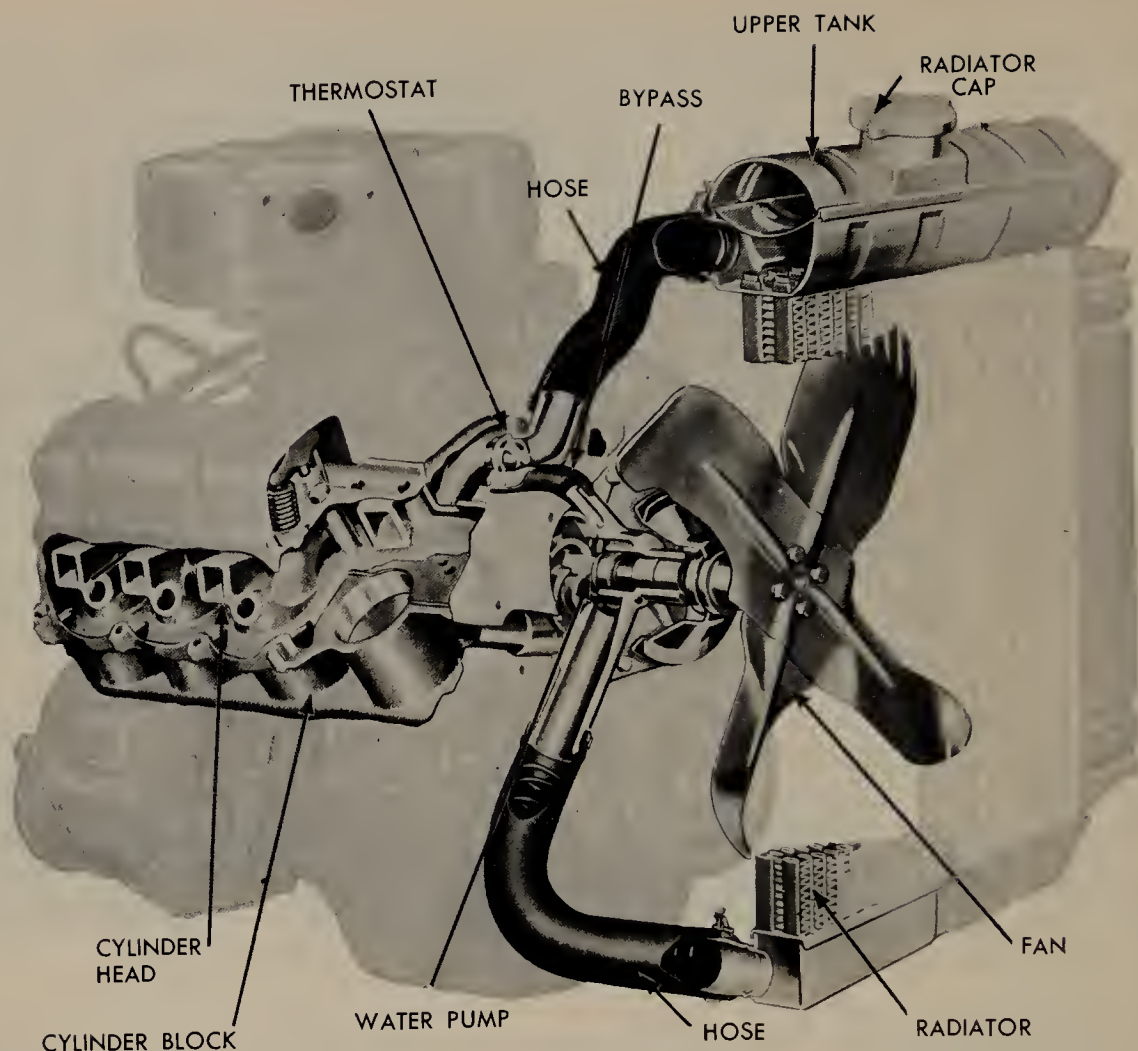

FIGURE 3.28 Cutaway view of a V-8 engine, showing the cooling system. (Lincoln-Mercury Division, Ford Motor Company.)
Figure 3.28 shows a cooling system on a V-8 engine. A water pump, driven by the engine fan belt, keeps the water in continuous circulation while the engine is running. Figure 3.28 shows where the water pump is mounted on the cylinder block. The water enters the engine from the bottom of the radiator, passing up through the spaces in the block and head. These spaces are called the *water jackets*.
3.17 Thermostat. There is a thermostat located in the passage between the cylinder head and the upper radiator tank (see Fig. 3.28).